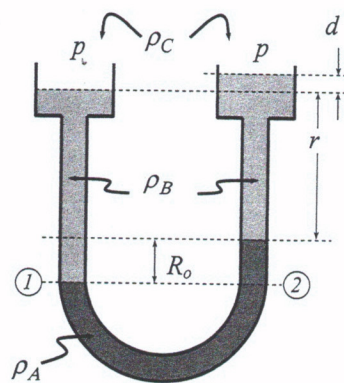

Figure 4.69
18. In the double-well manometer discussed in this chapter, the same amount of top fluid is placed on each side of the manometer (see Figure 4.36); this is difficult to achieve in practice, however. If slightly more fluid is placed on the lefthand side than on the righthand side, there will be a change in the reading of the manometer, even when the pressures on both sides are the same (Figure 4.69). Show how Equation 4.195 is modified if the initial reading of the double-well manometer is R_0 rather than zero.